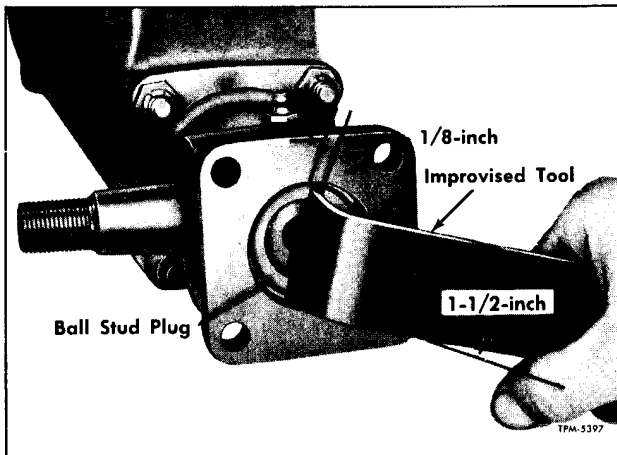

Figure 6—Removing Ball Stud End Plug with Improvised Tool
3. At booster cylinder ball stud body, remove snap ring, lock key, end plug, and spring. NOTE: Use improvised tool shown in figure 6 to remove end plug. Remove ball stud and two ball stud seats. Remove centering nut locking washer from centering nut. Straighten tab on locking washer if washer is to be reused.